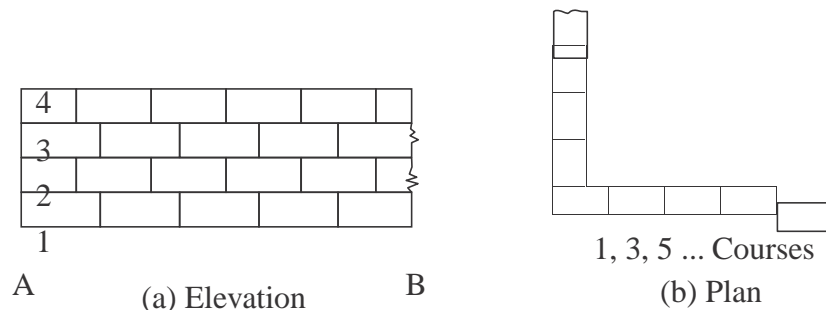

Fig. 2.6.1 Stretcher
1. Stretcher Bond: A stretcher is the longer face of the brick as seen in the elevation. In the brick of size 190 mm × 90 mm × 90 mm, 190 mm × 90 mm face is the stretcher. In stretcher bond masonry all the bricks are arranged in stretcher courses as shown in Fig. 2.6.1 However care should be taken to break vertical joints. This type of construction is useful for the construction half brick thick partition wall.